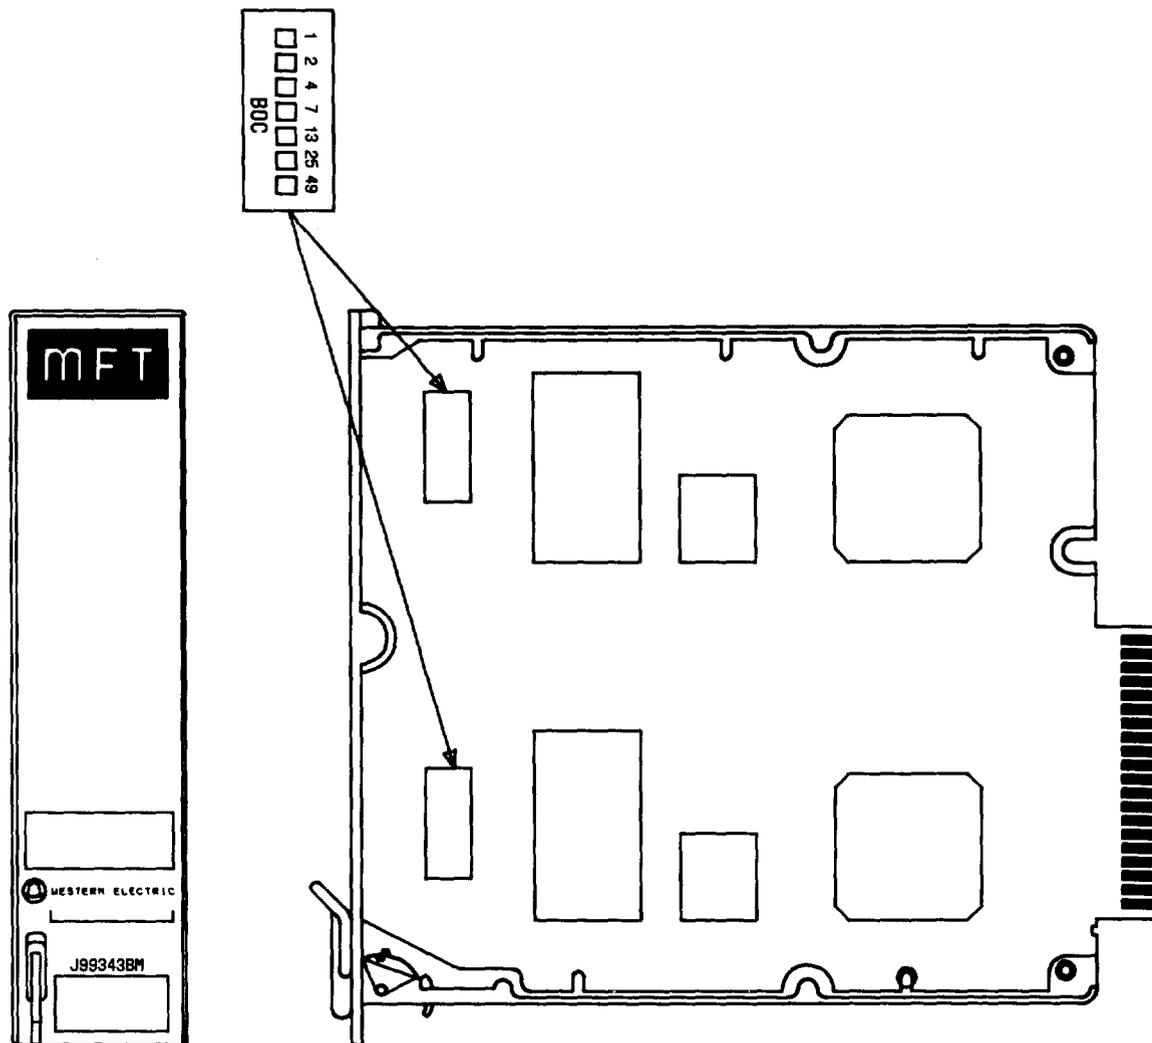
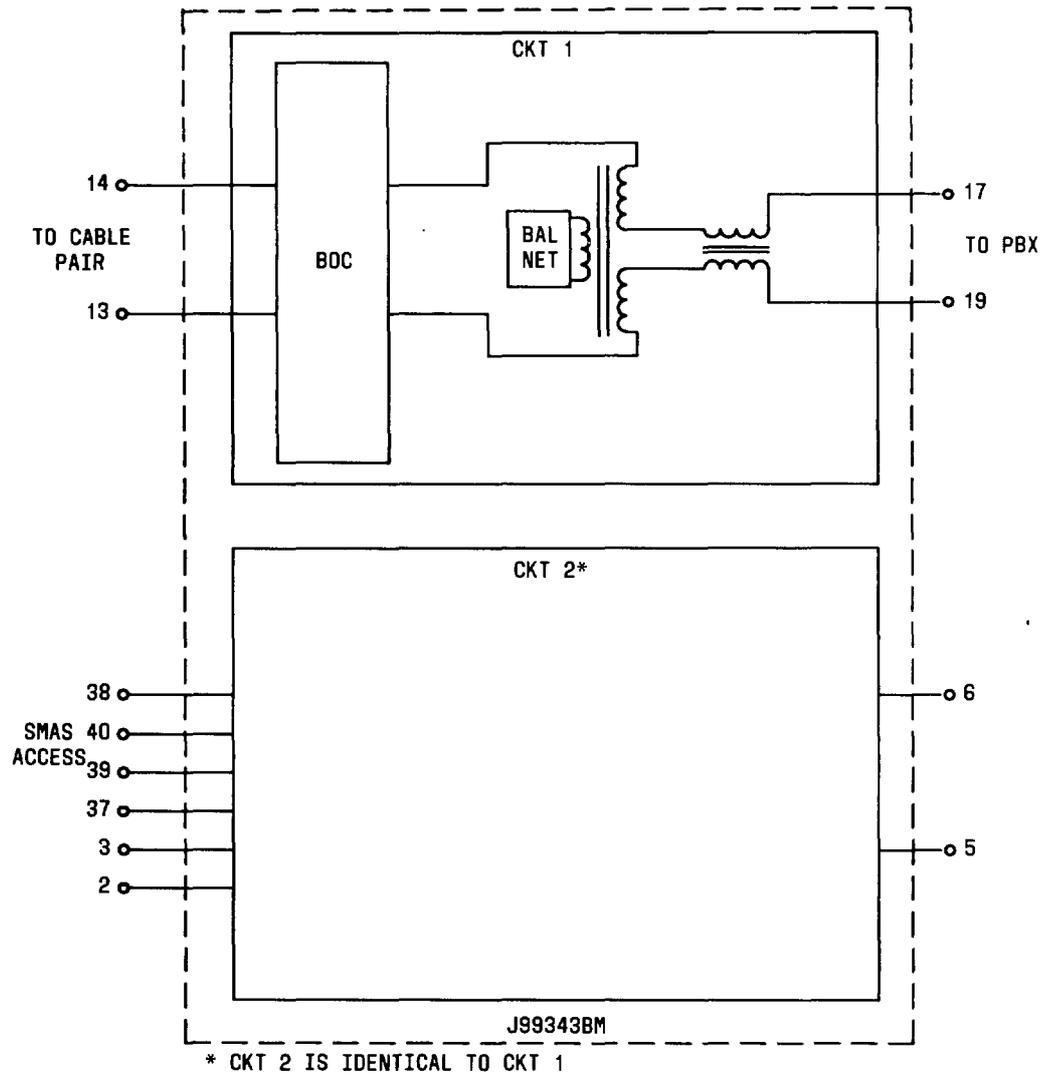

Fig. 3—Component Layout, J99343BM
Fig. 4—Block Diagram, J99343BM
3.01 The J99343BM provides impedance matching between 19-, 22-, and 24-gauge loaded (H88 or D88) facilities and 600-ohm equipment. It also provides loss equalization in the VF band. The J99343BM is electrically identical to the J99380AB impedance compensator, but some physical improvements have been made. The screw switches on the J99380AB have been replaced by rocker-type DIP switches. Also, the test jack on the J99380AB has been eliminated because this test access point is available on the MFT test extenders. The component layout for the J99343BM is shown in Fig. 3. Figure 4 shows a block diagram of the J99343BM.
3.03 The J99343BM contains two identical impedance compensation circuits as shown in Fig. 4. The equipment side of the circuit interfaces the 600-